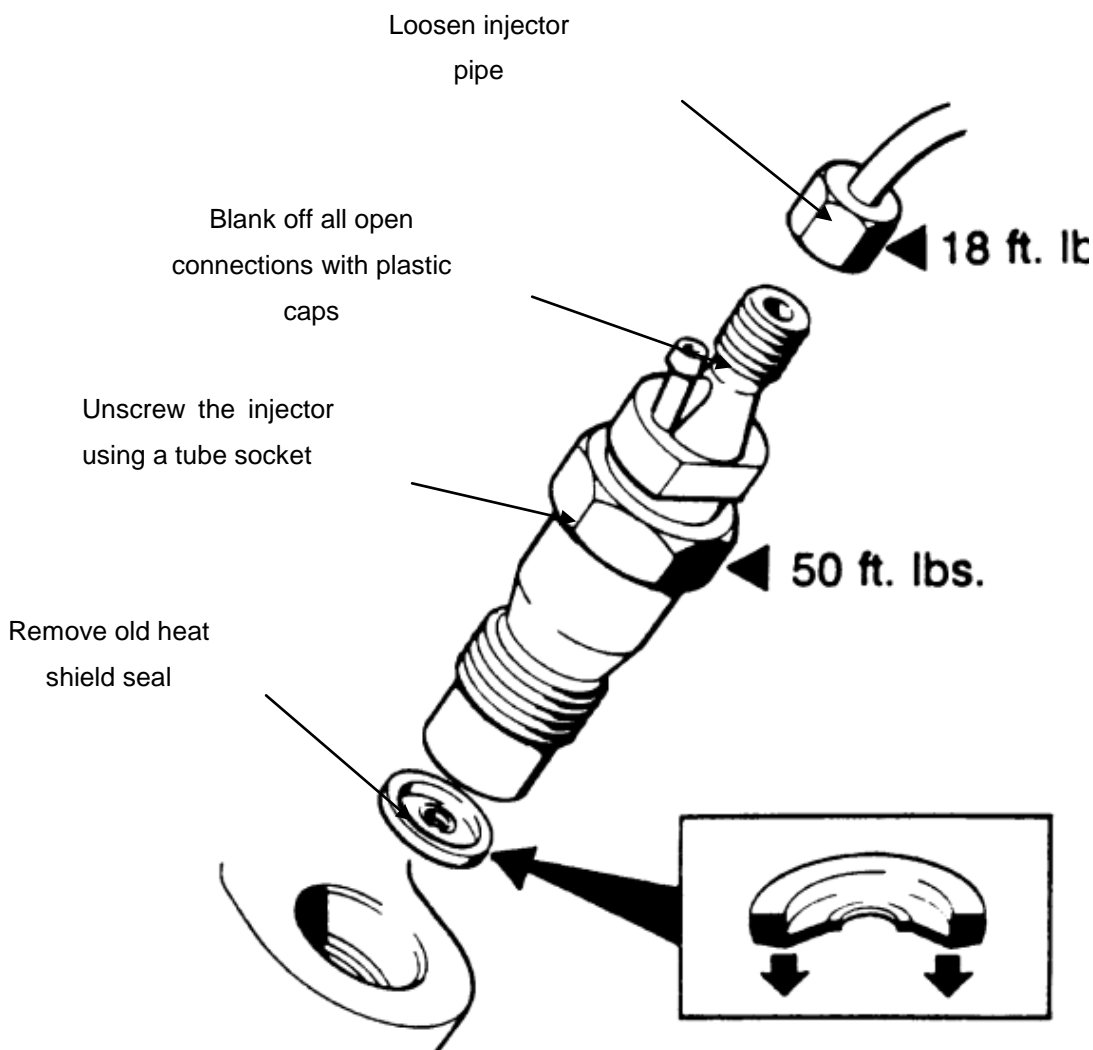

Fig. 6
- Remove all the injectors (Fig. 6).